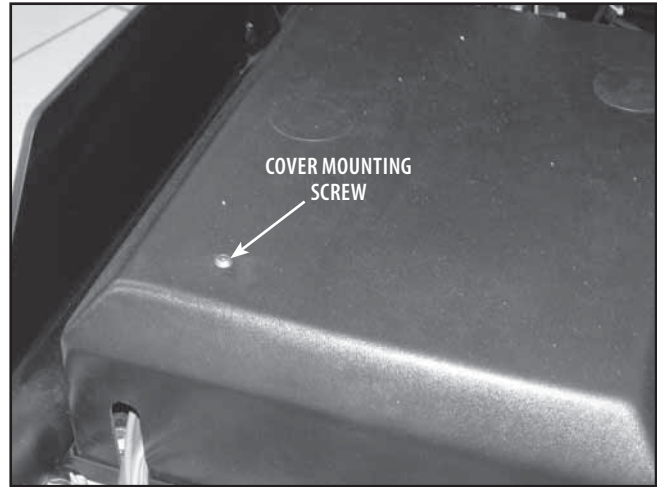

FIGURE 5.12
3. Remove the Hydraulic Assembly Cover with the 4 mm Allen Wrench. See Figure 5.12. Set the cover aside.
3. Remove the Hydraulic Assembly Cover with the 4 mm Allen Wrench. **Refer to Figure 5.12.** Set the cover aside.